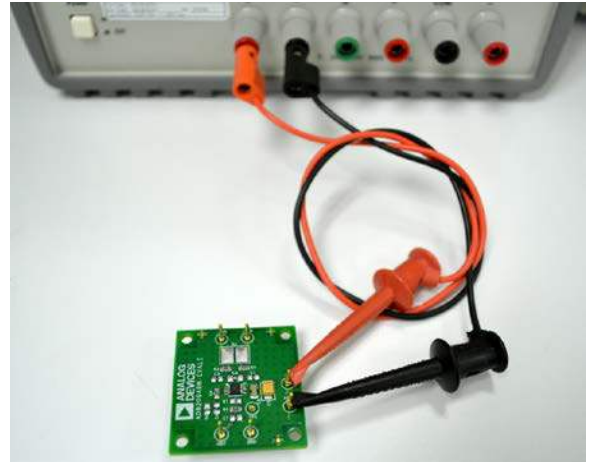

Figure 3. Basic Power Connections of the AD8209A Evaluation Board
1. Ensure that the power supply is off. Connect the power supply leads to the vector pins labelled VS and AGND, as shown in Figure 3.